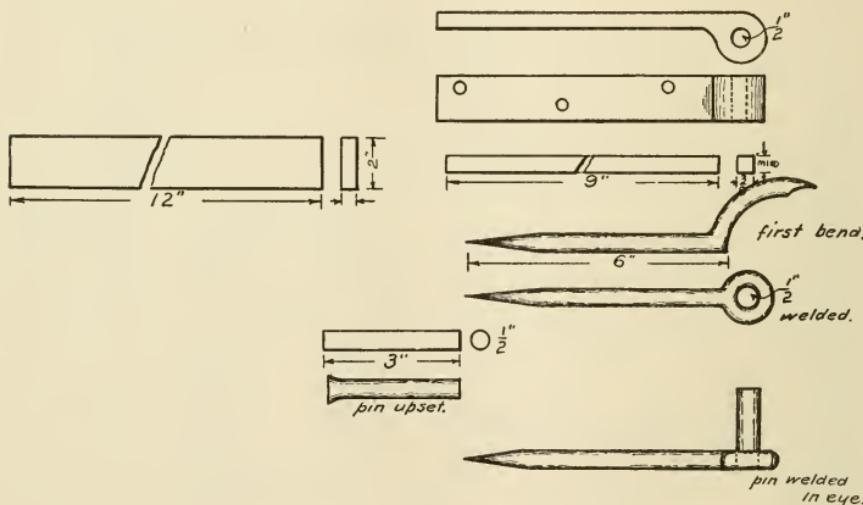

FIG. 214.—HINGE FOR FARM GATE.
1. For each hinge of the farm gate three pieces of iron are needed. The dimensions of each piece are given in Fig. 214. Bend the end of each flat piece around, making a lap weld so as to leave a $\frac{1}{2}''$ hole at